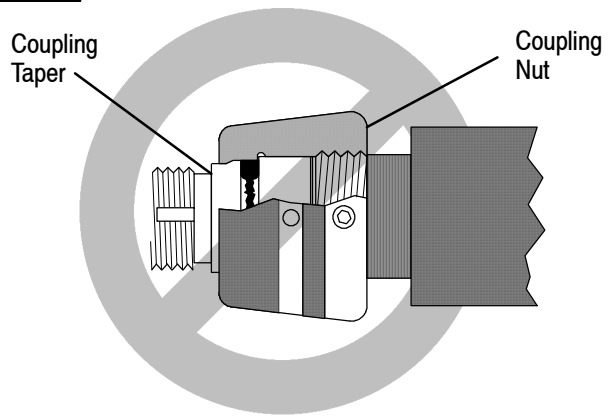

Figure 5
3.3. Final Visual Inspection - Coupling Taper (Figure 5)
1. Refer to Figure 5 and locate the surface of the front of the coupling nut and the coupling facing the tool head. Also locate the “coupling taper,” which is the part of the coupling that should be covered by
2. Compare the surfaces of the coupling taper and the coupling nut. If ANY portion of the coupling taper extends beyond the face of the coupling nut (refer to Figure 5), **DO NOT USE THE AMPACT TOOL - RETURN THE POWER UNIT IMMEDIATELY TO AMP INCORPORATED FOR REPLACEMENT.**